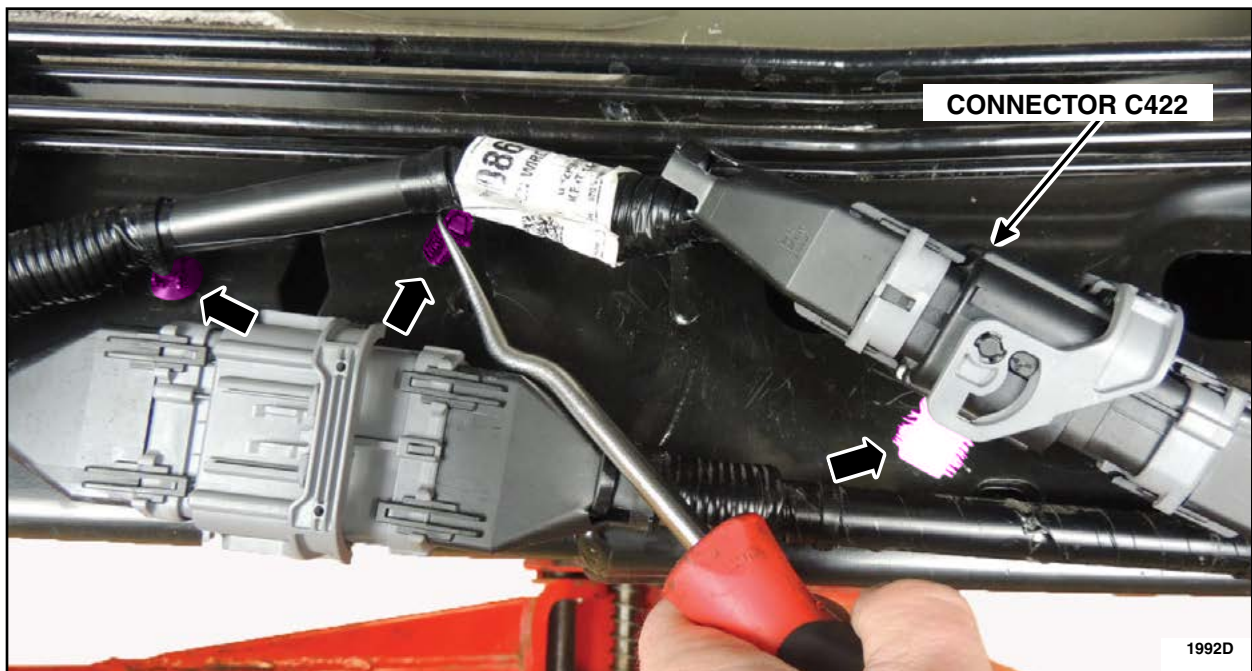

FIGURE 5
- Release the three retainers holding connector C422 and the wiring harness to the frame. See Figure 5.